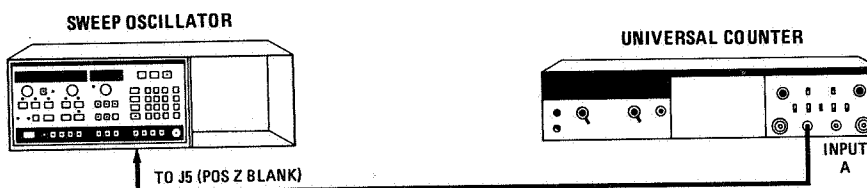

Figure 5-18. Marker DAC Adjustment Setup
- Position the sweep oscillator upright as shown in Figure 5-18 and remove the top cover.